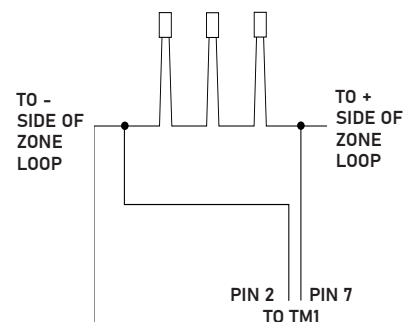

Figure 3. Devices to be shunted
**RECESSED VERSION (SB-2000):** The recessed version of the Shunt Switch is designed to fit in a single gang utility box. Run the wires from the door sensor switch(es) into the utility box. Attach the wires to terminal TM1 pins 2(-) and 7(+) (See Figure 3). Connect positive side of the control panel to pin 7 and the negative side to pin 2.
**SURFACE MOUNT VERSION (SB-2001):** Remove the Shunt Switch from the surface mount case. A knockout is provided on the back of the case for wire access. Attach the surface mount case directly to the wall, or it may be mounted to cover a single gang electrical box. Attach the door switch wires to terminal TM1 pins 2(-) and 7(+) (See Figure 3). Connect positive side of the control panel to pin 7 and the negative side to pin 2. Using an external 12 volt DC supply, run the wires from the power source to the alarm unit and attach the positive voltage to pin 1 and ground to pin 2 of terminal TM1. If battery backup is desired, connect a standard 9 volt battery to the battery connector. The LED toward the top. Secure face plate with the two screws provided.